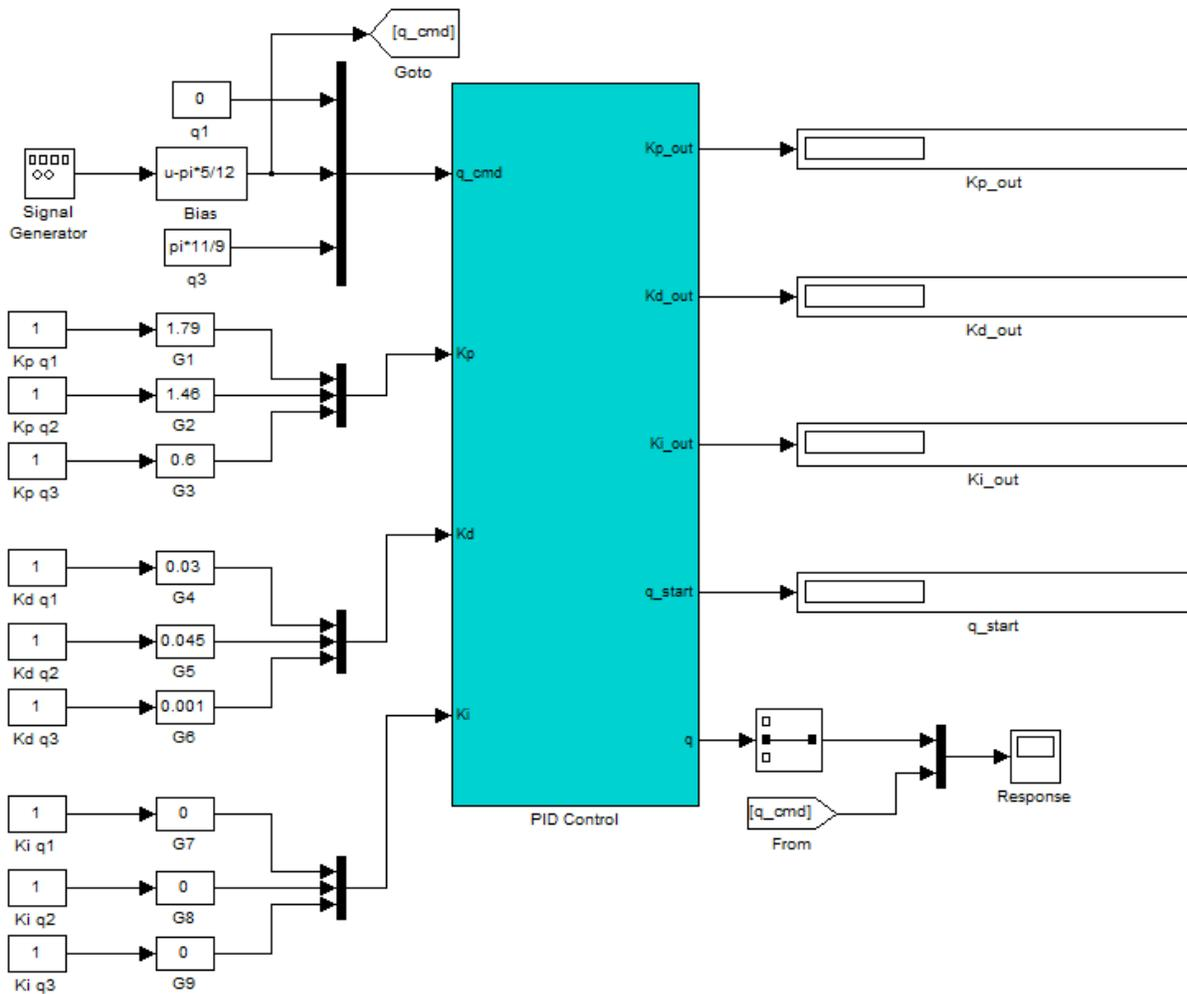

Figure 5.10: Joint 2 position controller
- Use a **Bias** block with a bias of $-5\pi/12$ rad to shift the square wave down. Your model should resemble Figure 5.10.